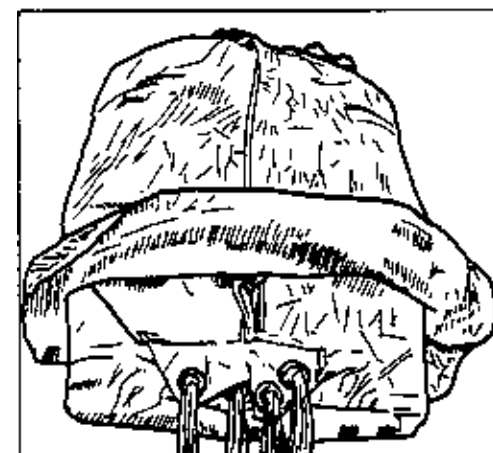

Figure 3
Step 10 Fold the tail surface back towards the top of the canopy and "S" fold the slider so that the grommets are even with the bottom of the stack. Now fold the tail fabric back towards the lines so that it covers the slider stack. *Figure 3*